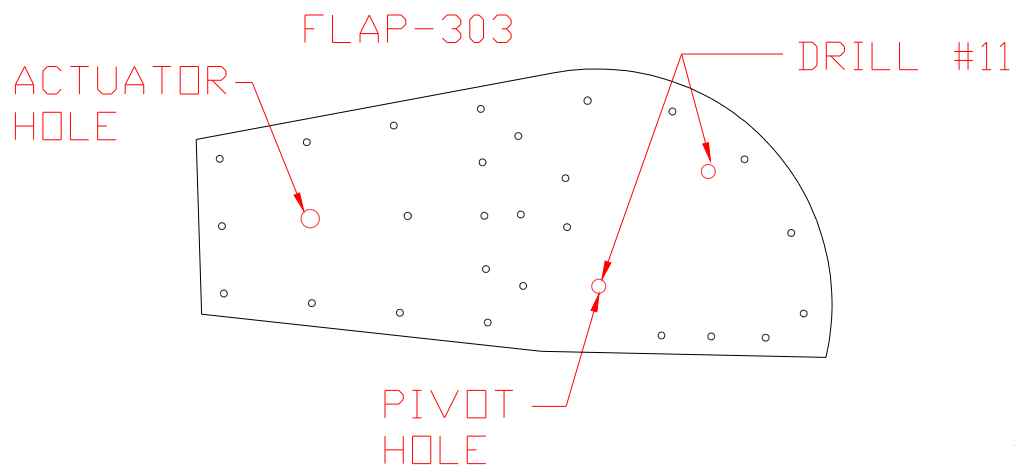

Figure 7.4.1
1) Drill two of the pre-punched holes to #11 in the End Plate (FLAP-303). Figure 7.4.1.
- 4) Drill the #11 pivot hole to 1/2". Figure 7.4.1.
- 5) Drill the actuator hole to 1/4" ensuring hole is drilled through the Flap Main Rib. Figure 7.4.1.